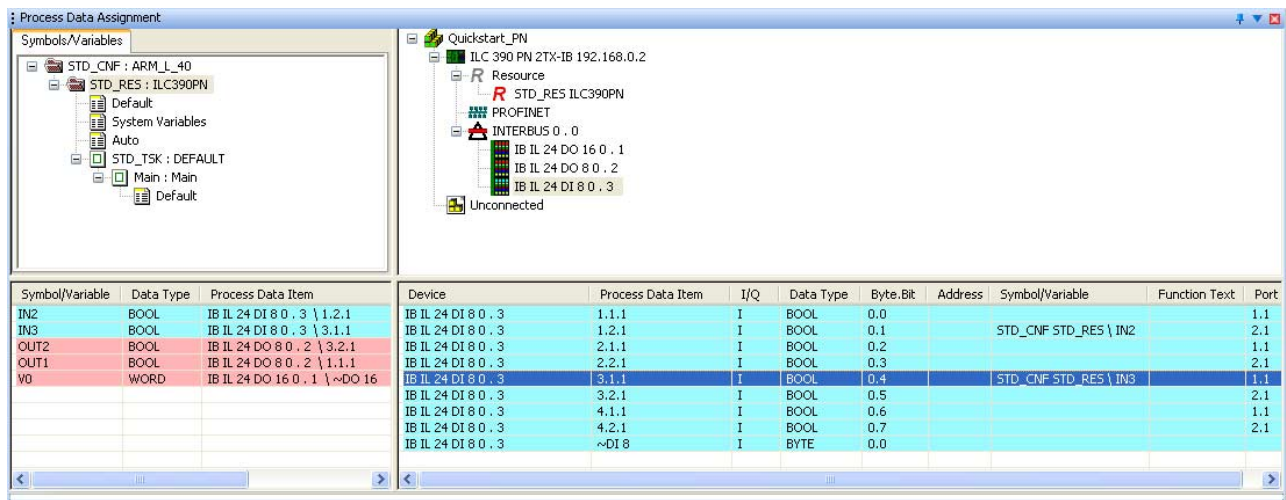

Figure 5-4 All used process data assigned to variables
- In the top right window, select the device for which you would like to link the process data to variables (IB IL 24 DI 8 in Figure 5-4).
- Select the process data item to be linked (3.1.1 in Figure 5-4).
- Variables are created when the program is created. Using drag & drop, link the selected variable to one of the variables on the left-hand side (IN3 in Figure 5-4).
Since the ONBOARD_INPUT_BIT10 variable is a system variable, it is not shown in Figure 5-4.